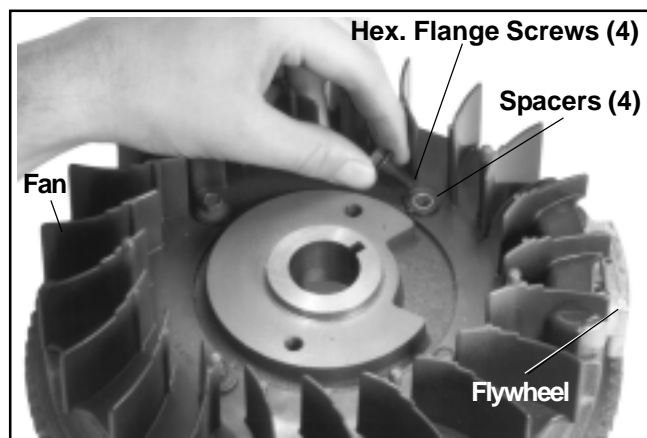

Figure 11-28. Installing Fan to Flywheel.
- Reattach the fan to the flywheel, using the spacers and hex. flange screws, or shoulder screws. See Figure 11-28. Torque the hex. flange screws to **9.9 N·m (88 in. lb.)**. On electric start models, with the domed fan, proceed through step 4 before reattaching the fan.